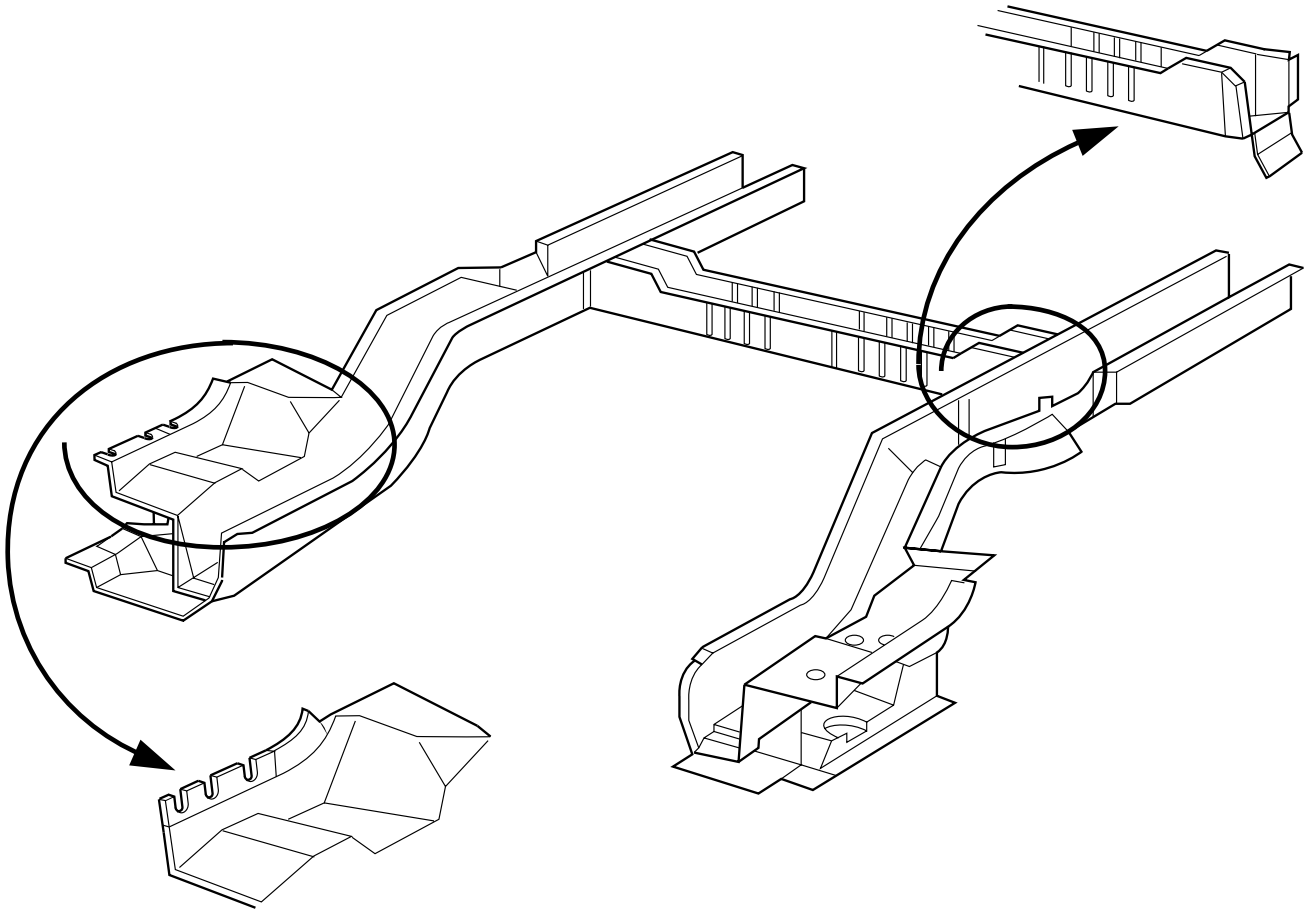

Fig. 1-21 — Full Rail Replacement
Complete rear rail replacement can be performed by drilling out all the factory welds. The outboard flange at the forward end of the rail must be cut in one location and bent upward, and the bottom flange of the crossbar must be bent downward. The rear rail can then be lowered from the vehicle (see Fig. 1-21). When installing the service rail, the outboard flange must be cut and bent up, installed, then straightened, and aligned. Weld as necessary.
3. Cut the rear rail along the rearward flange of the crossbar (Fig. 1-21). Continue this cut around the rear rail.